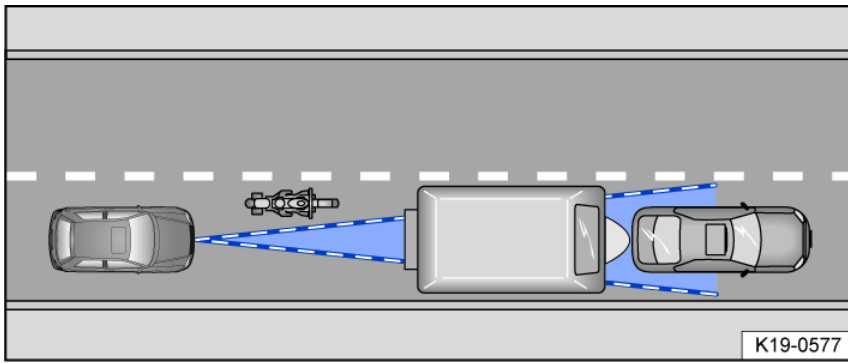

Fig. 128 Narrow vehicle.
- If there are vehicles that are driving close to your vehicle but outside the sensor range, such as motorcycles fig. 128.